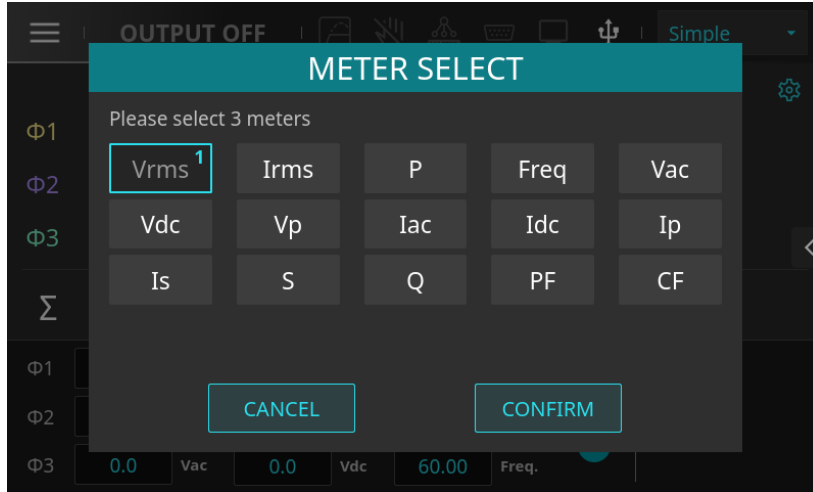

Figure 4-11: Page for deselecting measurement parameters “Irms” and “P”
2. Select the parameters you want to replace, such as “Irms” and “P”, as shown in Figure 4-11.